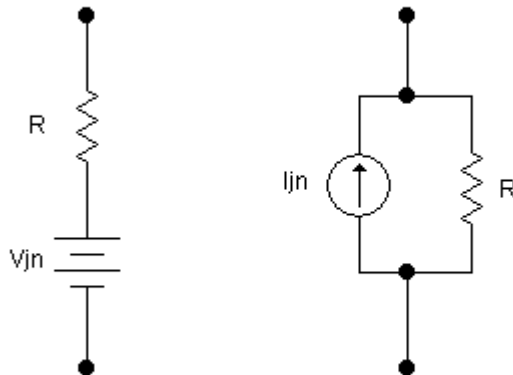

Figure 9. Resistor voltage and current noise models (Thevenin equivalent network on the left and Norton equivalent network on the right).
2. Resistor noise models that are used in circuit noise calculations are shown in Figure 9.